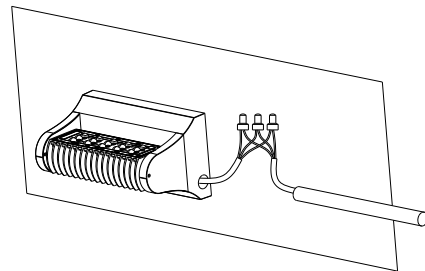

Figure 10
4. Fix the luminaire on the bracket; make wiring connection from side and go through isolation treatment. (Figure 10)